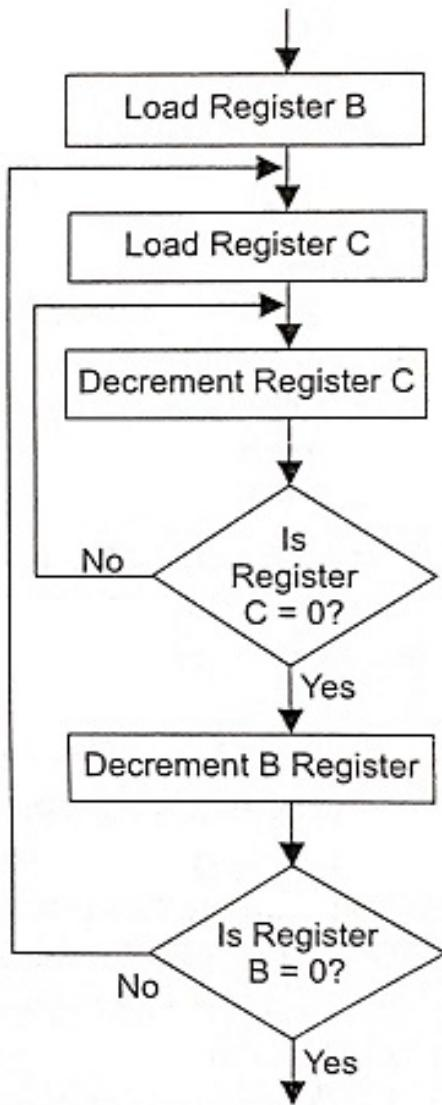

Fig. 4.11 Flowchart for
- ❖ The time delay can also be generated by using two loops as depicted in Fig. 4.11.